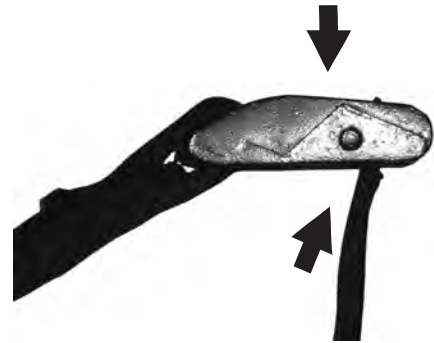

Fig. 2
2. Press down on latch and insert strap underneath teeth as shown in Fig. 2.